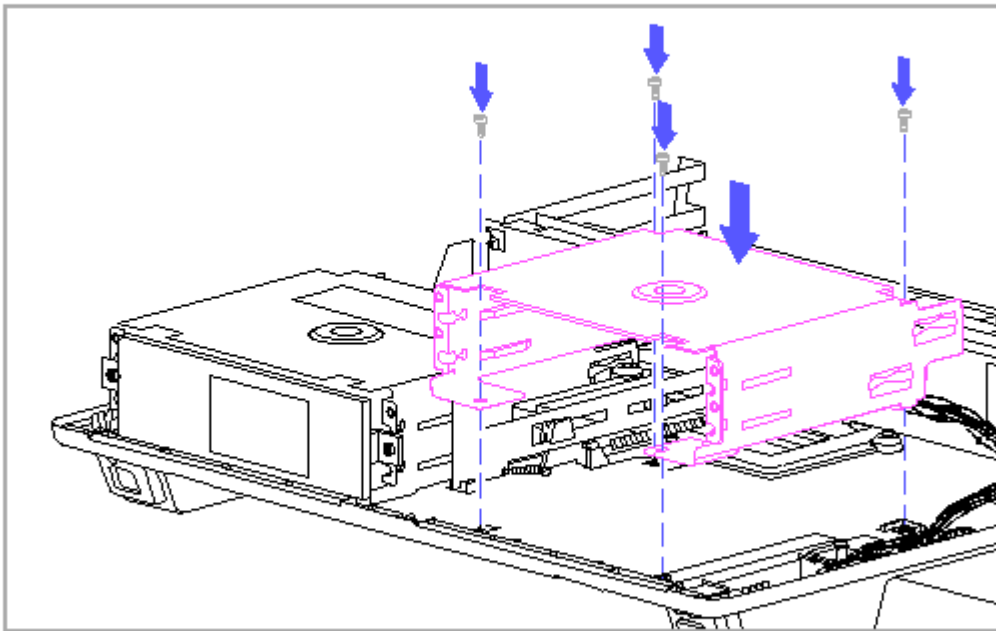

Figure 9-33. Placing the Drive Cage in Position
1. Place the drive cage(s) in position (Figure 9-33).
2. Replace the drive cage screws, but do not tighten them (Figure 9-33).